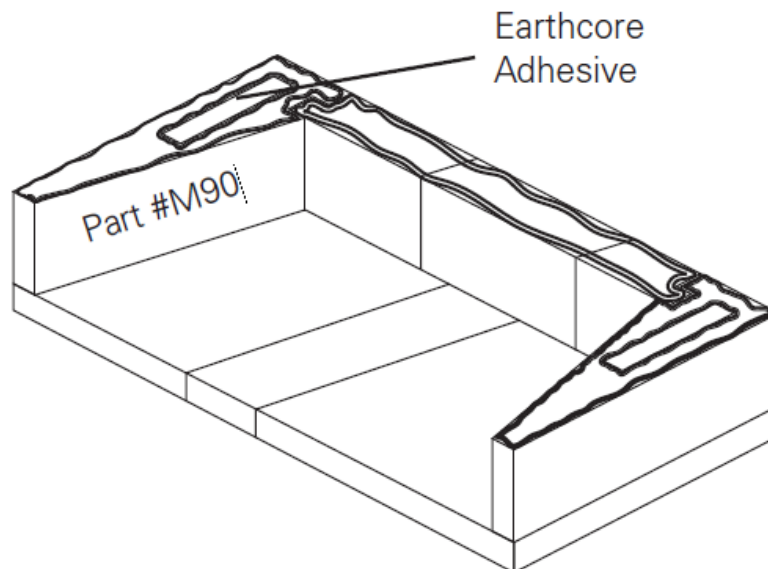

FIGURE 11
- 3) Continue assembly of the consecutive courses of the firebox side walls, **making sure to stagger the back wall components so that the vertical joints do not align**. Apply Earthcore Adhesive to the top of each layer of side wall and back wall components before setting the next course in place (**Figure 11**). Look for some Earthcore Adhesive to squeeze out along the joints of all contact surfaces as a sign that the joint is thoroughly sealed with the approved Earthcore Adhesive.